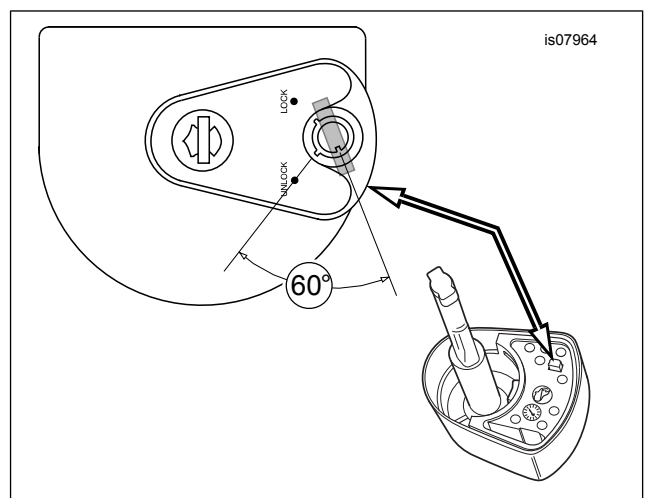

Figure 2. Ignition Switch Knob Release Button (Top and Bottom Views)
- b. See Figure 2. Rotate knob to FORK LOCK.
- c. Press and hold the release button at the bottom left side of the knob. Turn the key 60 degrees counterclockwise.
- b. See Figure 2. Verify that the button at the bottom of the knob is pressed, and key is turned 60 degrees counterclockwise from the UNLOCK position.